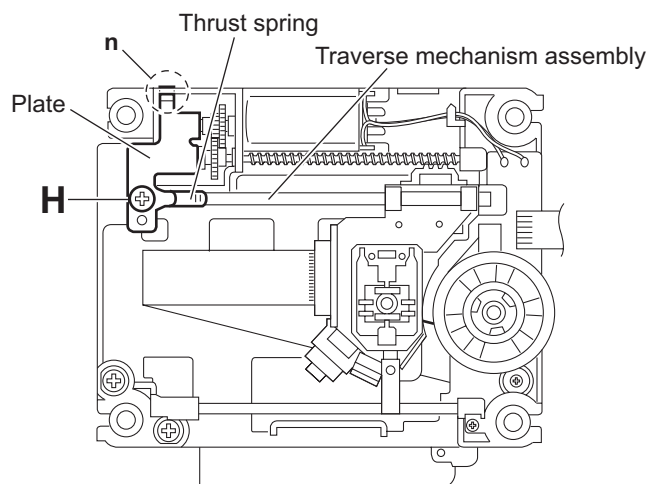

Fig.13
3.2.9 Removing the feed motor (See Figs.13 to 15)
- (1) From the top side of the traverse mechanism assembly, remove the screw **H** attaching the plate and thrust spring. (See Fig.13.)
- (2) Remove the plate from the joint **n** of the feed holder and take out the plate with the thrust spring. (See Fig.13.)